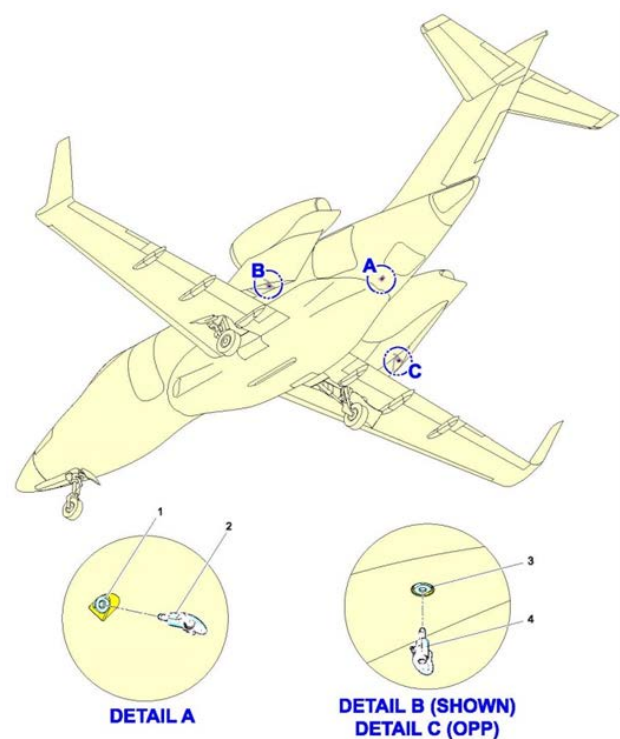

Figure 4-2. Airplane Mooring
1. Install a mooring pin (4) in the receptacle (3) in each pylon (Figure 4-2).
2. Install a mooring pin (2) in the receptacle (1) in the bottom of the aft fuselage.